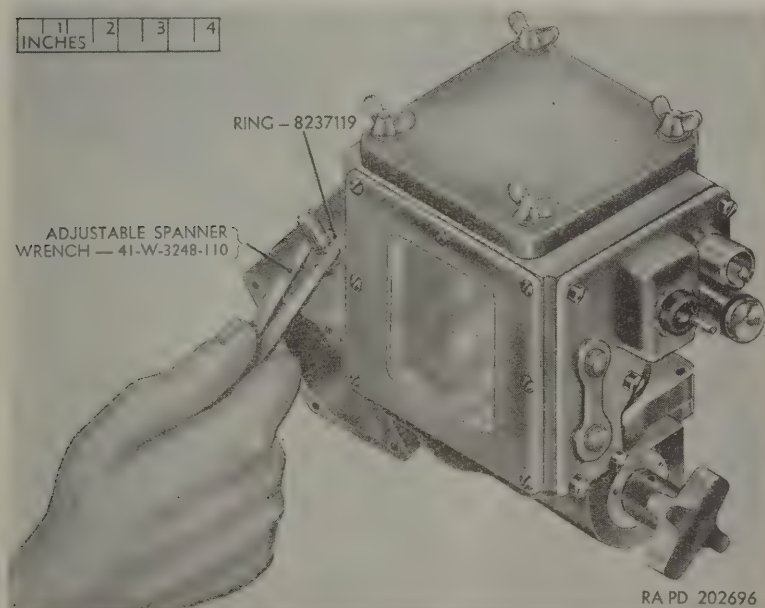
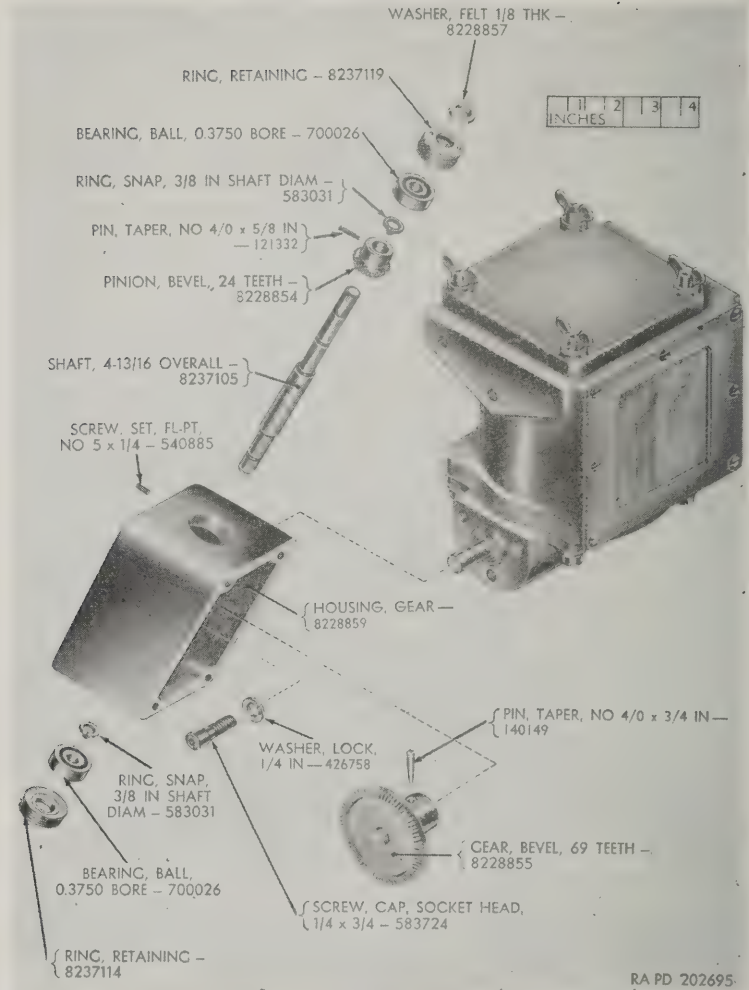

Figure 4. Removal of upper retaining ring from gear housing.
Figure 5. Range drive T25—partial exploded view.
b. Unscrew the upper retaining ring, using spanner wrench 41-W-3248-110 (fig. 4). Remove the felt washer (fig. 5) from the ring. Before unscrewing the retaining ring, first remove the set screw (fig. 5) that is inserted through the side of the housing.
d. The shaft and its pinion are then removed by tapping the lower end of the shaft. Contact between the upper ball bearing and its snap ring will remove this bearing along with the shaft. The pinion (fig. 5) can then be removed from the shaft by driving out its taper pin. Remove the upper ball bearing from the shaft and the lower ball bearing from the housing. Pry the snap rings from the shaft.
e. Remove the gear (fig. 5) from the end of the drive shaft after driving the taper pin from the gear.